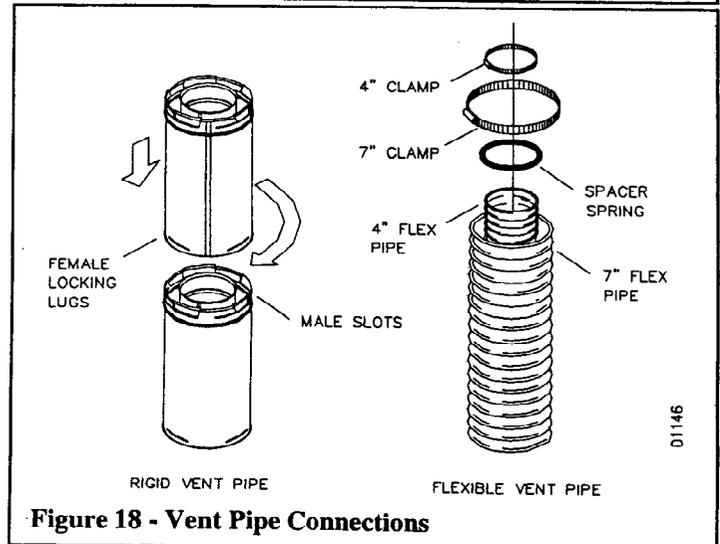
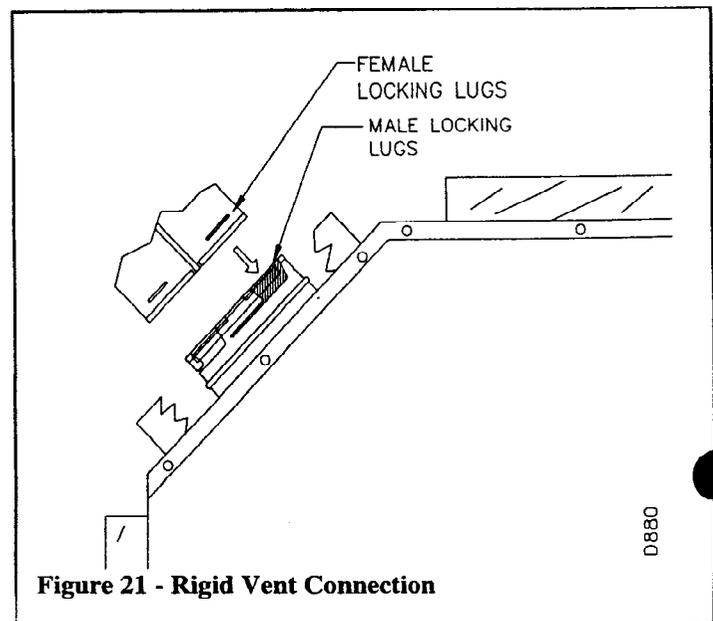

Figure 18 - Vent Pipe Connections
Figure 21 - Rigid Vent Connection
**Twist-lock Procedure:** The female ends of the pipes and fittings have four locking lugs (indentations). These lugs will slide straight into matching slots on the male ends of the adjacent pipes and fittings. (All connections must be sealed with high temperature silicone sealant as specified in the second warning statement on page 7.) Push the pipe sections together and twist one section clockwise approximately one-quarter turn until the sections are fully locked. (See figure 18). NOTE: Horizontal runs of vent must be supported every three feet. Use wall strap for this purpose.
3. Attach the vent pipe assembly to the fireplace using twist-lock connections for rigid pipe or clamp, method for flex pipe. See figures 21 and 22, on page 9 and 10. Set fireplace in front of its permanent location to insure minimum clearances. Mark the wall for a 9 1/2" x 9 1/2" (242mm x 242mm) square cut through combustible exterior wall or a (7 1/2" (190mm) diameter hole for non-combustible material such as masonry block or concrete. See figure 18, on page 9. The center of the hole should line up with the centerline of the rigid vent pipe. Frame if necessary to support outer vent terminal.
2. Assemble the desired lengths of pipe and elbows necessary to reach from the fireplace flue up through the firestop. All connections must be sealed with high temperature silicone sealant as specified in the second warning statement on page 7. Be sure all pipe and elbow connections are fully twist-locked (see Figure 18, on page 8).